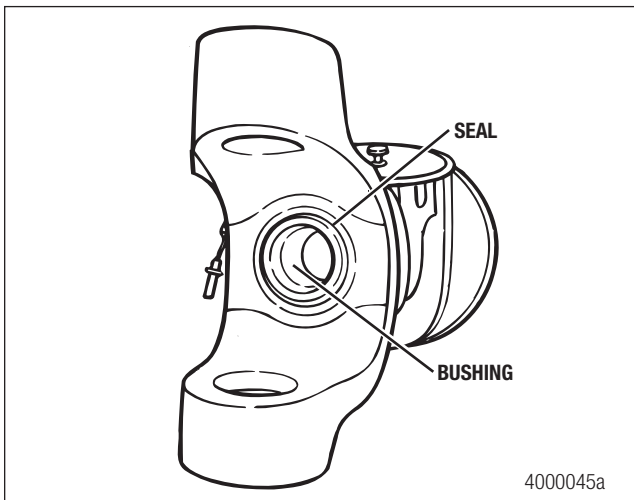

Figure 5.34
2. Inspect the oil seal and bushing in the axle housing for wear or damage and replace if necessary. If the bushing must be replaced, install a new oil seal at the same time. Figure 5.34.